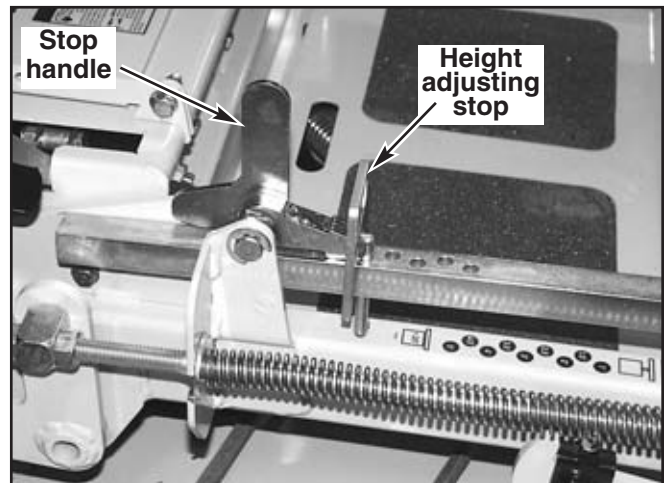

Figure 5-16
4. Set cutting height at 3-1/4" in the height indicator by placing the height adjusting stop in the 3" hole, and turning the height stop so that the flat side is against the stop handle. Fig. 5-16